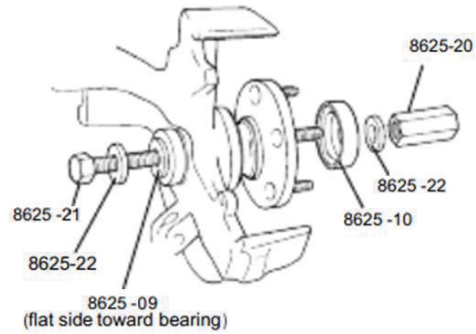

Figure 3
5. Assemble tool components as shown in Figure 3. Lightly oil the hub assembly, and install the hub.